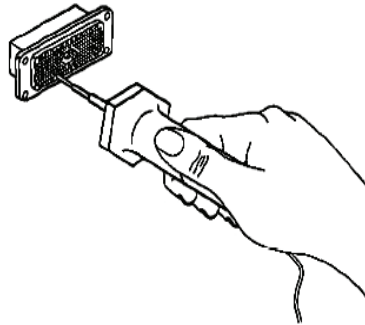

Figure 16. Removal Tool on Wire.
- c. Slide removal tool along wire at a right angle to connector insert face and align with contact cavity (Figure 16).